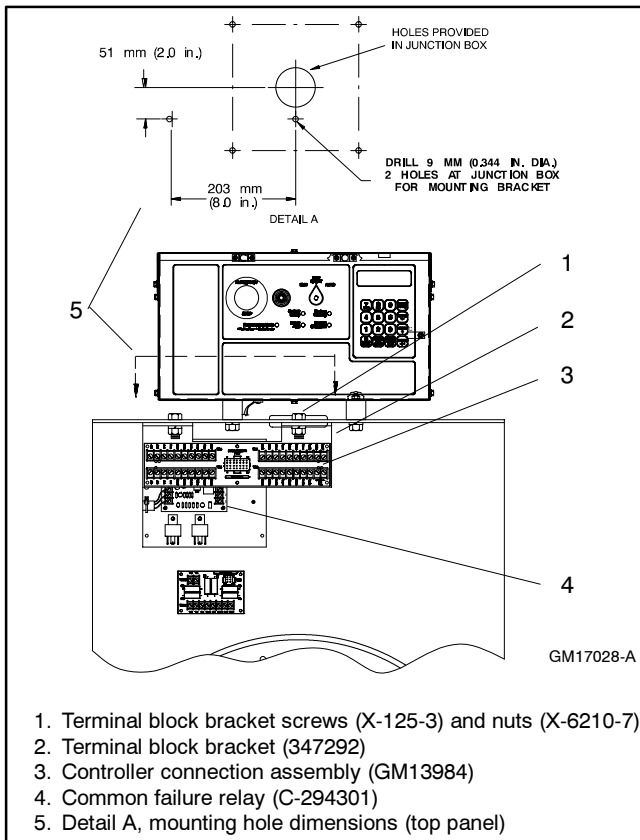

Figure 3 Terminal Block Bracket and Controller Connection Assembly Mounting (350/400 kW)
- 2.2.2 Remove the four screws attaching the controller to the junction box. See Figure 3.
- 2.2.3 Mark the drill hole locations where the terminal block bracket (347292) mounts to the junction box top panel using the dimensions given in Figure 3.
- 2.2.6 Place the terminal block bracket (347292) on the underside of the junction box top panel with the bracket mounting holes visible from the rear of the junction box and mount using two screws (X-125-3) and nuts (X-6210-7). See Figure 3.
3.2.1 Mount the common failure relay (C-294301) to the junction box bracket studs using four spacers (X-712-9) and nuts (X-70-12). Place the spacers between the common failure relay and the mounting bracket. See Figure 3 for the mounting location.